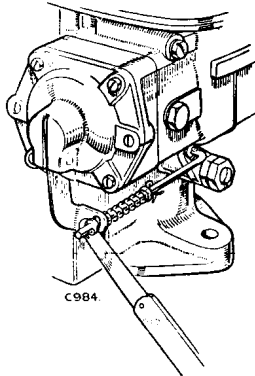

Fig. 55. Setting accelerator pump operating rod, showing .020 in. feeler gauge
- (1) Remove the split pin behind the spring and allow the spring to move back along the rod.
- (2) Slacken the slow-running screw right off.
- (3) With the throttle fully closed and the operating lever just about to operate the pump diaphragm, add washer or washers on the end of the rod up to the nearest split pin hole, ensuring that there remains a 0.020 in. (0.5 mm) clearance between the lever and the first washer when the outer split pin is fitted. (See Fig. 55). This clearance ensures the correct travel of the pump lever.